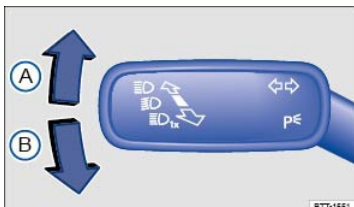

Fig. 86 To the left of the steering wheel: Turn signal and high beam lever.
- Move the turn signal and high beam lever ⇒ Fig. 86 to position: